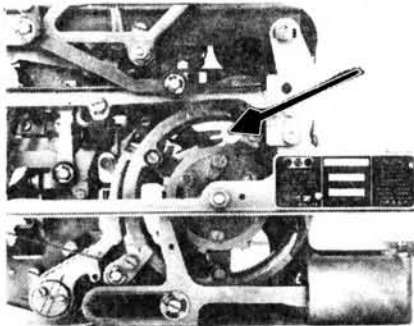
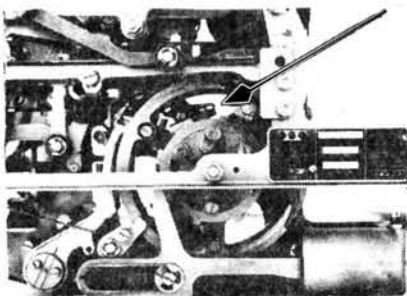

Fig. 2
Fig. 3
Now look in Fig.2--this is a photo of the new bellcrank that should be in the machine if it has all 9 code bars. If you are missing the "0" bar, you will most likely not have any bellcrank at this position at all. You can also determine this quickly. If there is no bellcrank, it will be included in the 152348 kit with the "0" code bar, etc.
Fig.3 shows the 157514 mod. kit installed in the bellcrank--this is merely a bracket that attaches through the slot shown in Fig.2 via a bolt just to the left of the slot.
If you have the "0" bar and the bellcrank shown in Fig.2, you need the 157514 mod. kit. If you are missing either or both of these items, you will need the 152348 mod. kit.
-- Showing the 157514 mod. kit mounted on the bell-crank of Fig. 2.